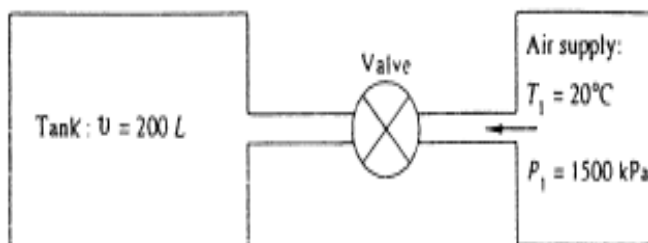

Figure 3
b) The insulated tank in Fig. 3 is to be filled from a high-pressure air supply.